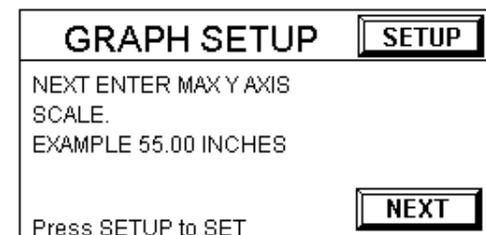

Figure ZD.2-40: Maximum Y Axis Setup
- 2) Press “NEXT” to skip the Graph Title setup. The *Graph Setup Screen* changes to describe the setting of the maximum Y axis scale {Figure ZD.2-40}.